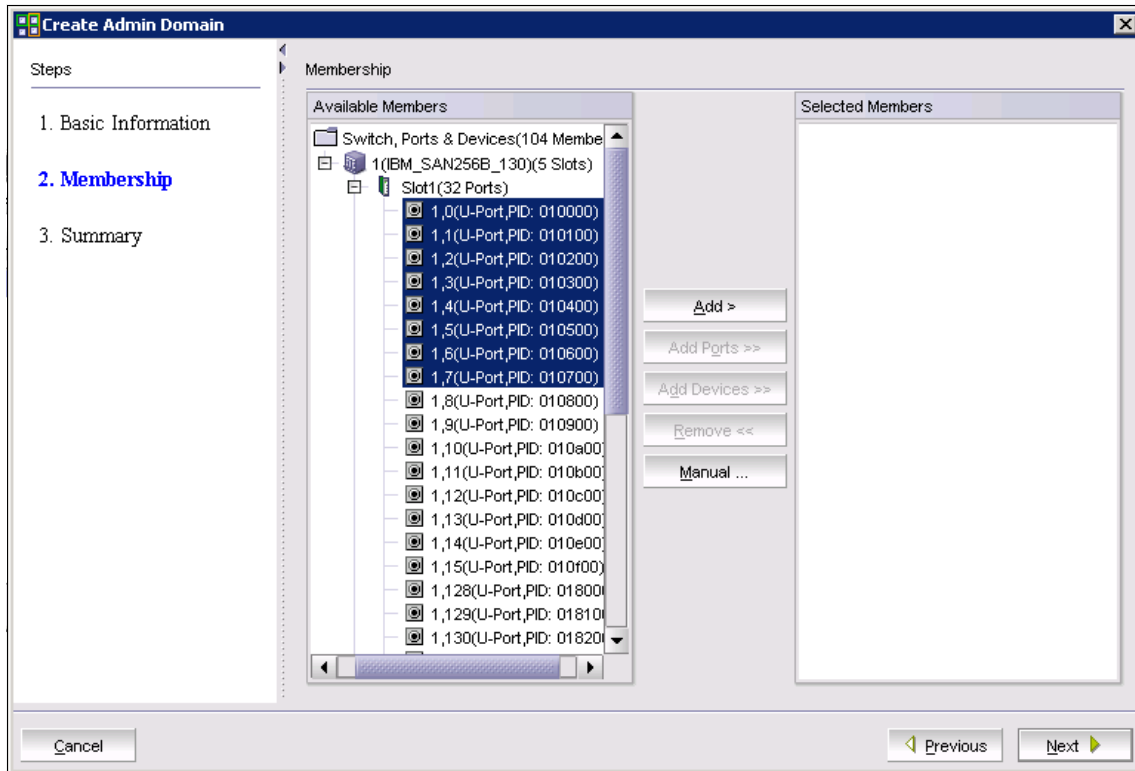

Figure 8-40 Create Admin Domain - membership selection
3. Next, you select the membership. Select the switches, ports, and devices to form the new Admin Domain. As shown in Figure 8-40, we add ports 0-7 on Blade1 of the SAN256B to AD2 for this example. You need to highlight the members in the **Available Members** panel, hold down *Ctrl* to select multiple members, and then add these members to the **Selected Members** panel by clicking the **Add>** button.